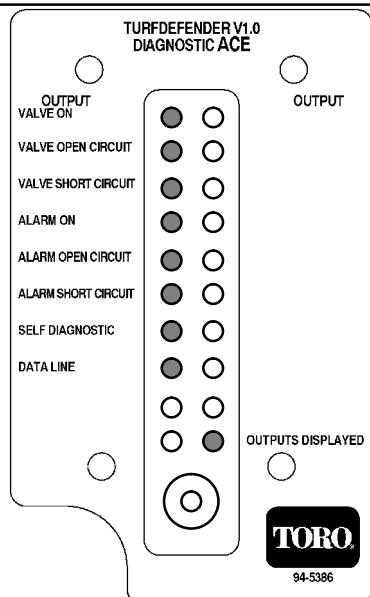

Figure 10
2. Press toggle button until green "Outputs displayed" LED is lit (Fig. 10).
2. Toggle "outputs displayed" on Diagnostic ACE display (Fig. 10).
2. When toggling "output" a LED should display (Fig. 10) any of the following problems diagnosed by the TurfDefender: